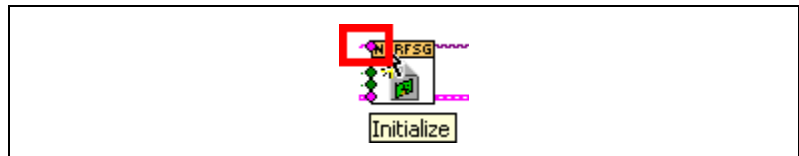

Figure 1-26. Resource Name Terminal on niRFSG Initialize VI
7. Hover the cursor over the **resource name** terminal on the niRFSG Initialize VI and right-click. Select **Create»Control** to create a front panel field where you specify the NI 5670 device name. The **resource name** terminal is highlighted in Figure 1-26.